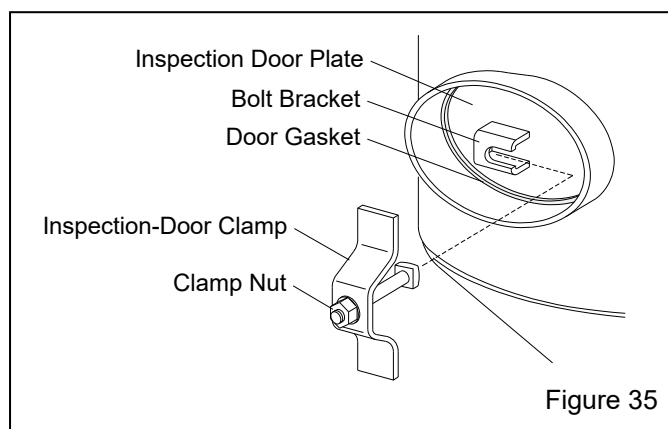

Figure 35
## 7.10 Pop-Up Valve Replacement – Figures 35 and 36
1. Loosen the inspection-door clamp nut enough to slide the clamp bolt from behind the bracket. Then remove the clamp, bolt, and nut, as an assembly, as shown in Figure 35.